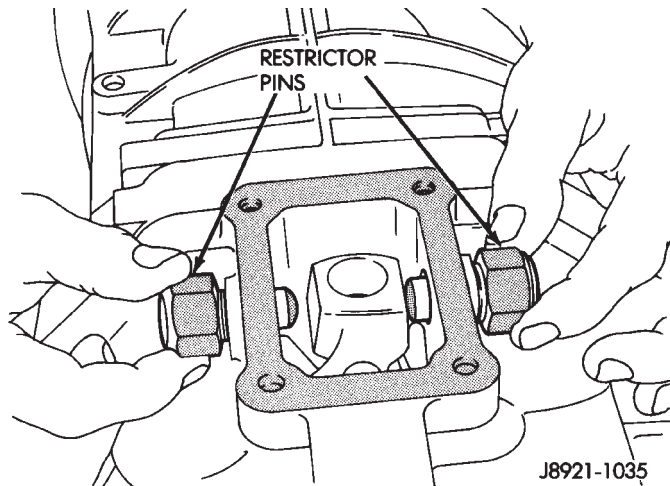

Fig. 24 Shift Arm Restrictor Pins
- (11) Remove shift arm restrictor pins (Fig. 24).